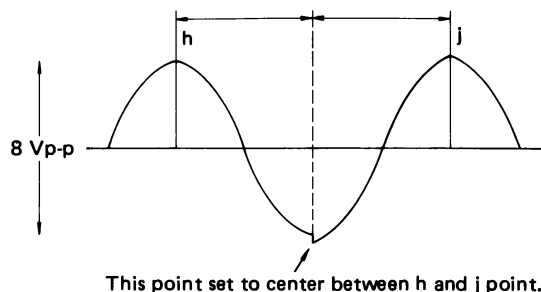

Fig. 3-22
2. Adjust L213 transformer to get waveform following Fig. 3-22.